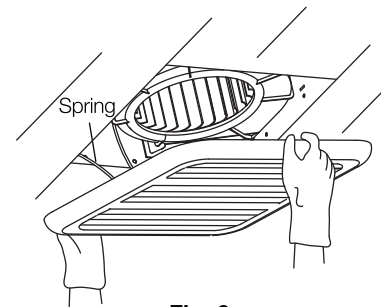

Fig. 6
1. Remove grille by squeezing spring and pull down (Fig. 6).